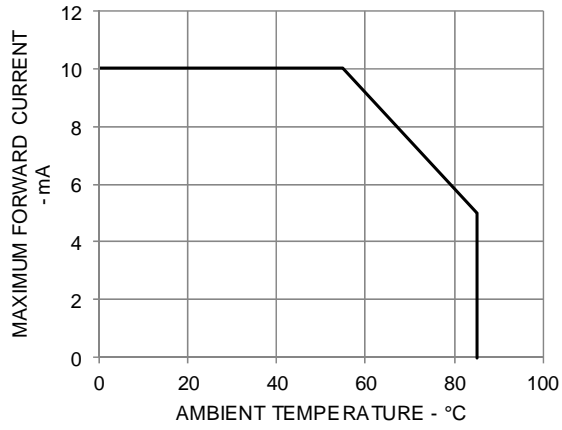

Figure 7. Derating curve
1. Derate linearly as shown in Figure 7.